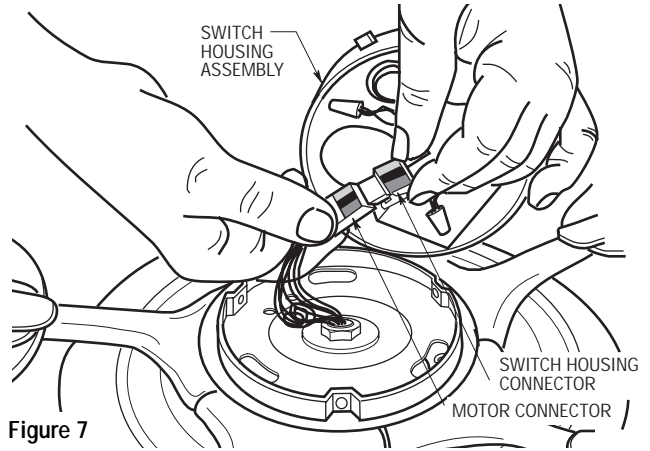

Figure 7
- 10. Engage the connector of the switch housing assembly with the motor connector (Figure 7). The two connectors are keyed and color-coded and must be mated correctly (color-to-color) before they can be engaged. Make sure the connector latch closes properly.